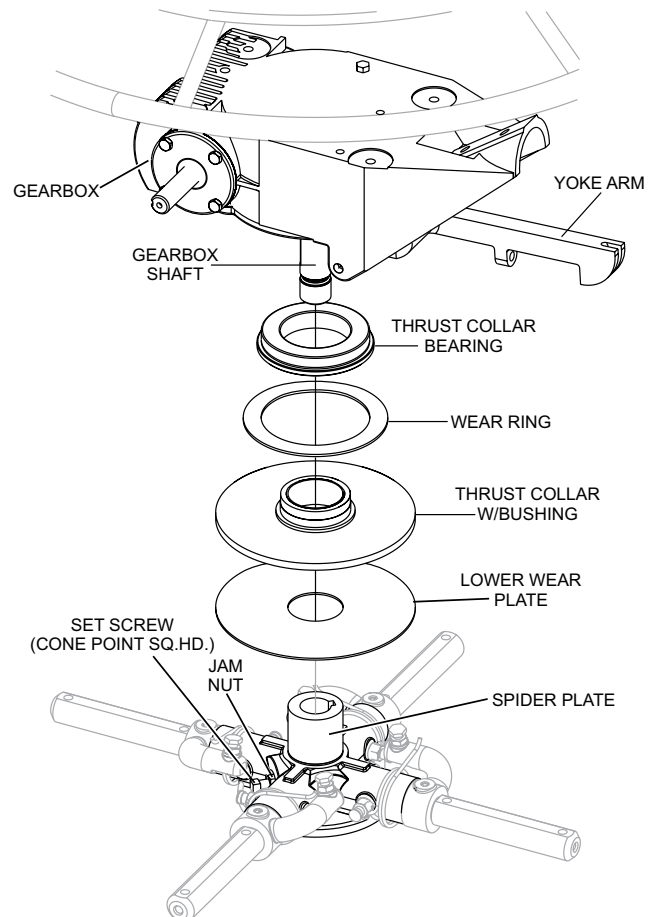

Figure 51. Spider Removal
- Locate the cone point square head set screw (Figure 51) and attached jam nut found on the side of the spider assembly.